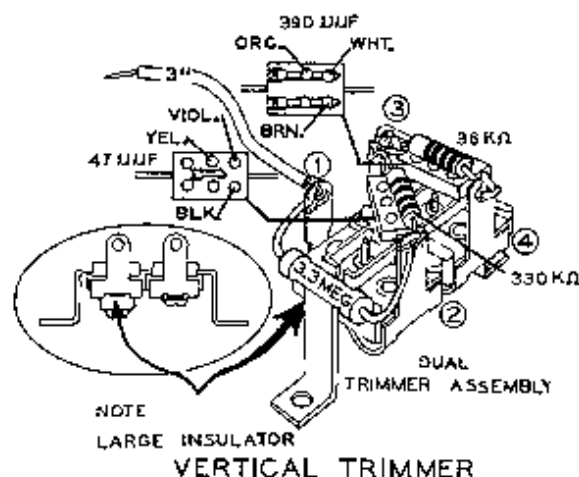

Figure 2
Refer to Figure 2 for the following steps.
- (✓) R4. Select one of the dual trimmers (#31-18) and connect a 3.3 megohm 5% resistor between lug 1 (NS) and lug 2 (NS). Keep the leads of the trimmer components as short as possible and place them as shown in Figure 2.